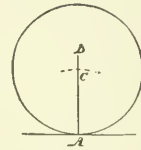

Fig. 612
19. *To draw a circle or an arc tangent to a straight line at a given point* (Fig. 612).—At the given point A erect a perpendicular AB (Prob.